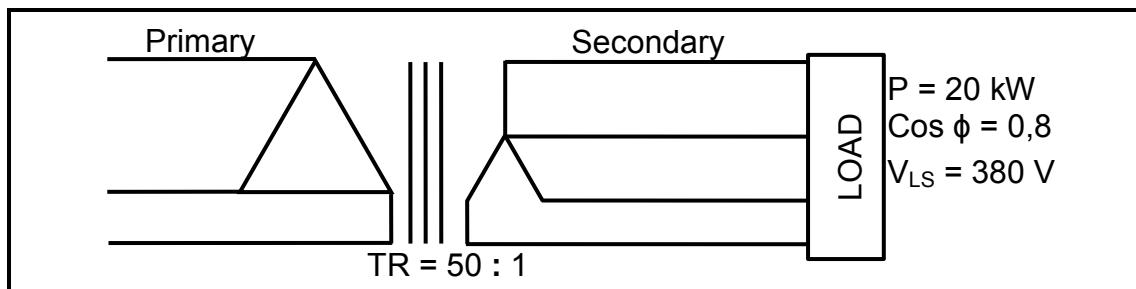

FIGURE 3.1: THREE-PHASE TRANSFORMER
- 3.4 Study FIGURE 3.1 below and answer the questions that follow.